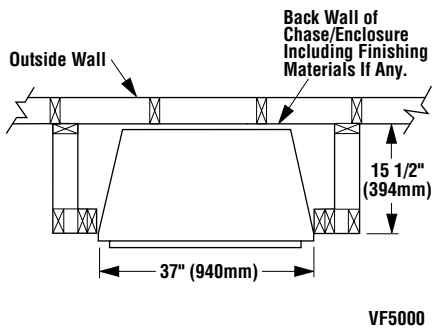
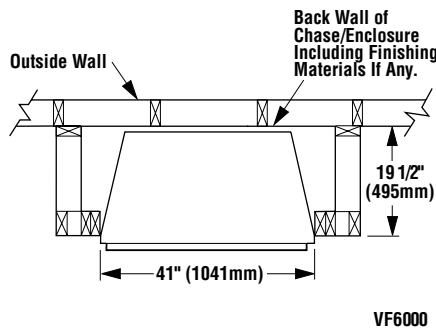

Figure 4
Figure 7
Note: Framing dimensions in Figures 4 - 9 are calculated for a nailing flange depth of 1/2" (13 mm).
Step 1. Frame VF5000 appliance enclosures as illustrated in Figures 4, 5 and 6. Frame VF6000 appliance enclosures as illustrated in Figures 7, 8 and 9 for surround installations proceed to Step 8.